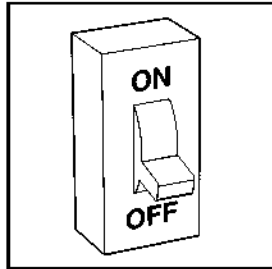

Fig. 5 - Turn Off Electrical Supply
3. Turn OFF electrical supply to the furnace. See Fig. 5.
3. Turn off electrical supply to the furnace. (See Fig. 5.)